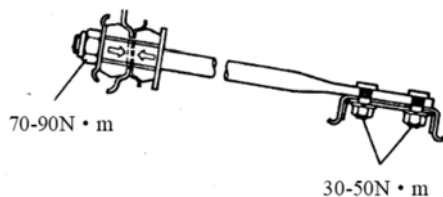

Fig.3.5-3
Assemble according to the reverse order from (1) to (4) of disassembly. Pay attention to that the large end of the two cushion pad face to each other and shall not be reversibly attached. Screw the nut to the specified torque. As is indicated in Fig.3.5-3.